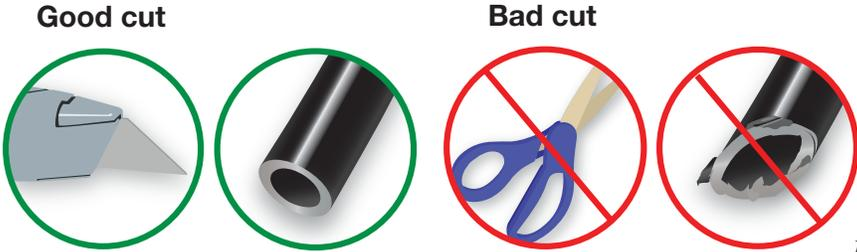

Fig. 9
5. Route air line to inlet port of the compressor. Measure and cut squarely to appropriate length (Fig. 9). Make sure when routing to keep away from sharp edges and allow for proper bend radius (minimum bend radius for 1/4" air line is 1" [25mm]) to avoid kinking.
Use a sharp knife or a hose cutter and make clean, square cuts (Fig. 9). Do not use scissors or wire cutters because these tools will deform the air line. Do not cut the lines at an angle. The minimum bend radius for 1/4" air line is 1" (25mm). Air lines are to be installed straight into fittings. Inspect the air line for scratches that run lengthwise. Contact Air Lift customer service if the air line is damaged.